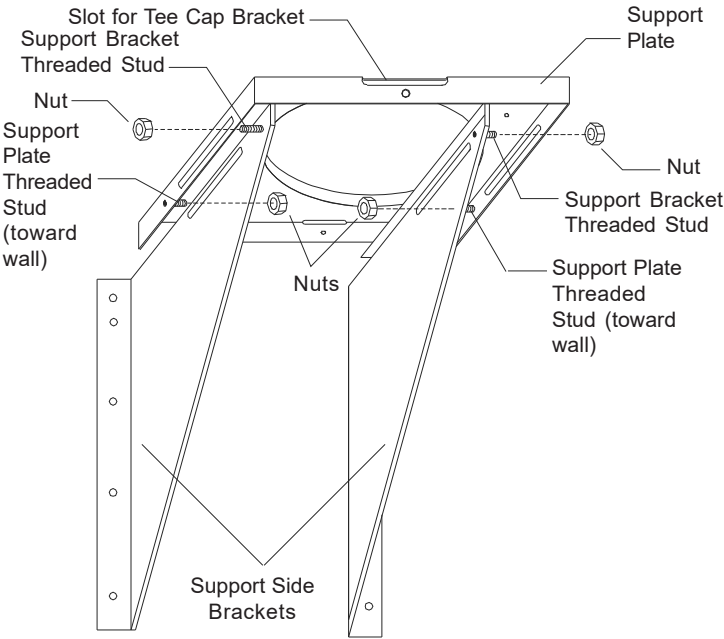

FIGURE 22
5. Assemble the 2 side Brackets (point of triangle facing down) to the Support Plate (flange up and threaded stud towards the wall) by inserting the threaded studs into the oblong slots (see Figures 22 & 23). Install the supplied nuts on the threaded studs until snug, do not tighten at this time as adjustments may be required. Set aside and prepare the support bracing to secure the side brackets as per the Framing Dimensions Table 3, Section B and Figure 21 (B).